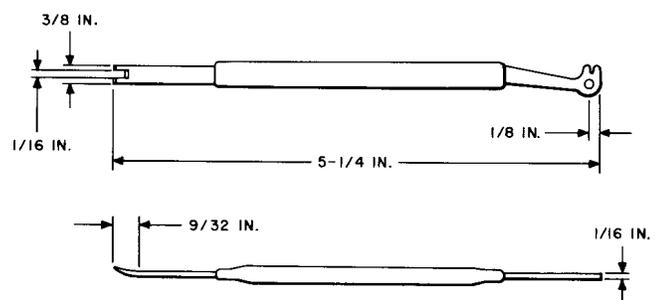

Fig. 10—537A Adjuster Tool
2.10 537A: The 537A tool (Fig. 10) is an adjuster used for removing and replacing strap wires of vertical units on 300-, 304-, 314-, 324-, and similar-type switches and 245-, 254-, 263-, and 264-type relays.